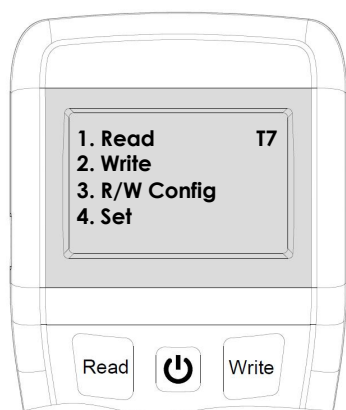

Figure 16
1. Switch-on the programmer, then press button **"4"** to enter to **Setting** mode (Figure 16).